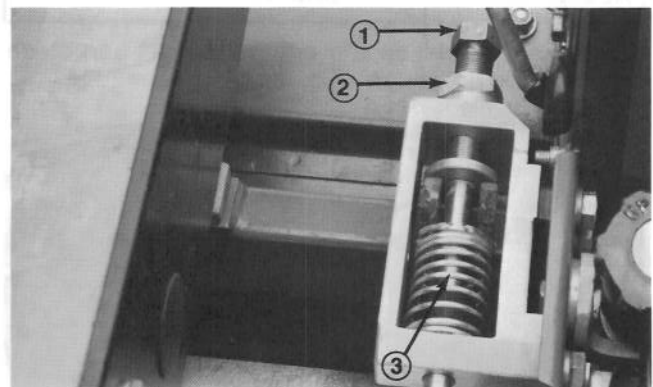
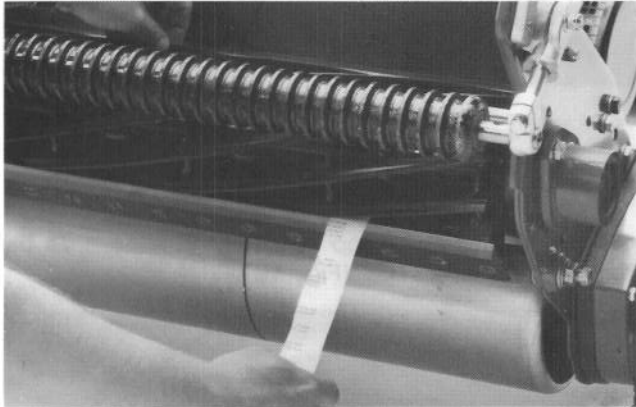

Figure 11
Figure 12
1. Position machine on a flat, level work surface. Make sure reel contact is removed by loosening jam nuts on bedknife adjusting screws and rotating adjusting screws counterclockwise (Fig. 11).
3. On one end of front side of reel, insert a long strip of newspaper between reel and bedknife (Fig. 12). While slowly rotating reel forward, tighten bedknife adjusting screw, (on same end of reel), one flat at a time, until paper is pinched lightly, which results in a slight drag when paper is pulled (Fig. 11).
WARNING: Use caution if removing bedbar because adjusting screw springs (Fig. 11) are under tension and could release suddenly.